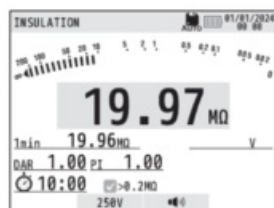

Fig. 15-1
1. Start with the screen on which the measured value is held after measurement. (Fig. 15-1)